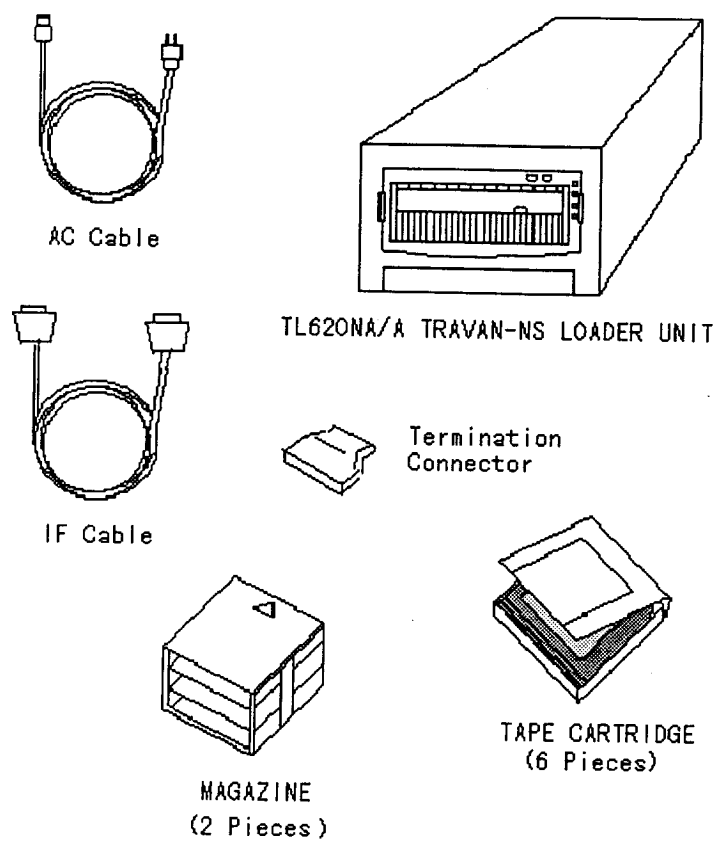

Figure 1-1
1.     *The Composition(see figure1-1)*